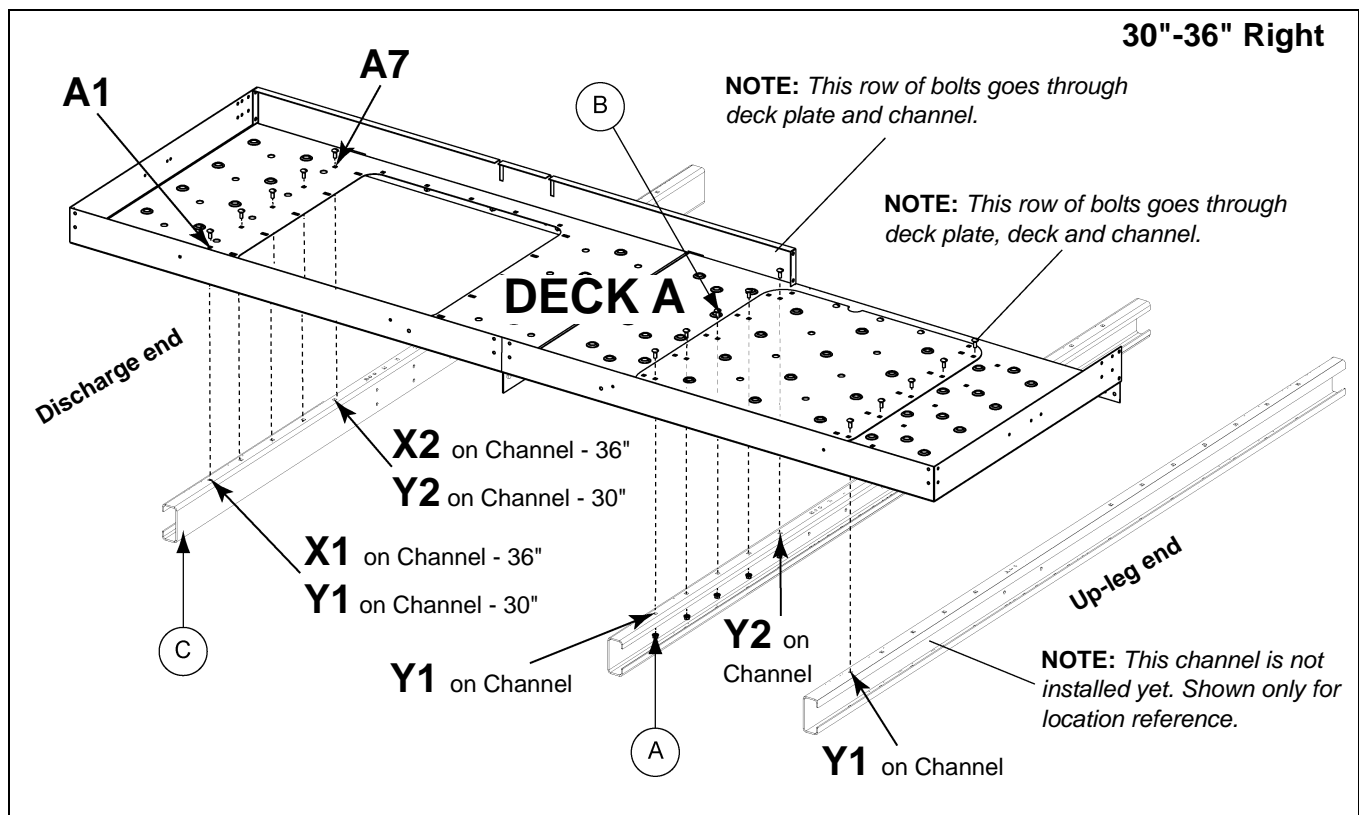

Figure 8H
3. At the **Discharge End**, use a punch as needed to line up. (See Figure 8H.)
- b. At the **hatch side** - channel hole **Y1** on the cross deck support channel to Deck A and deck plate cover. (See Figure 8H on Page 58.)